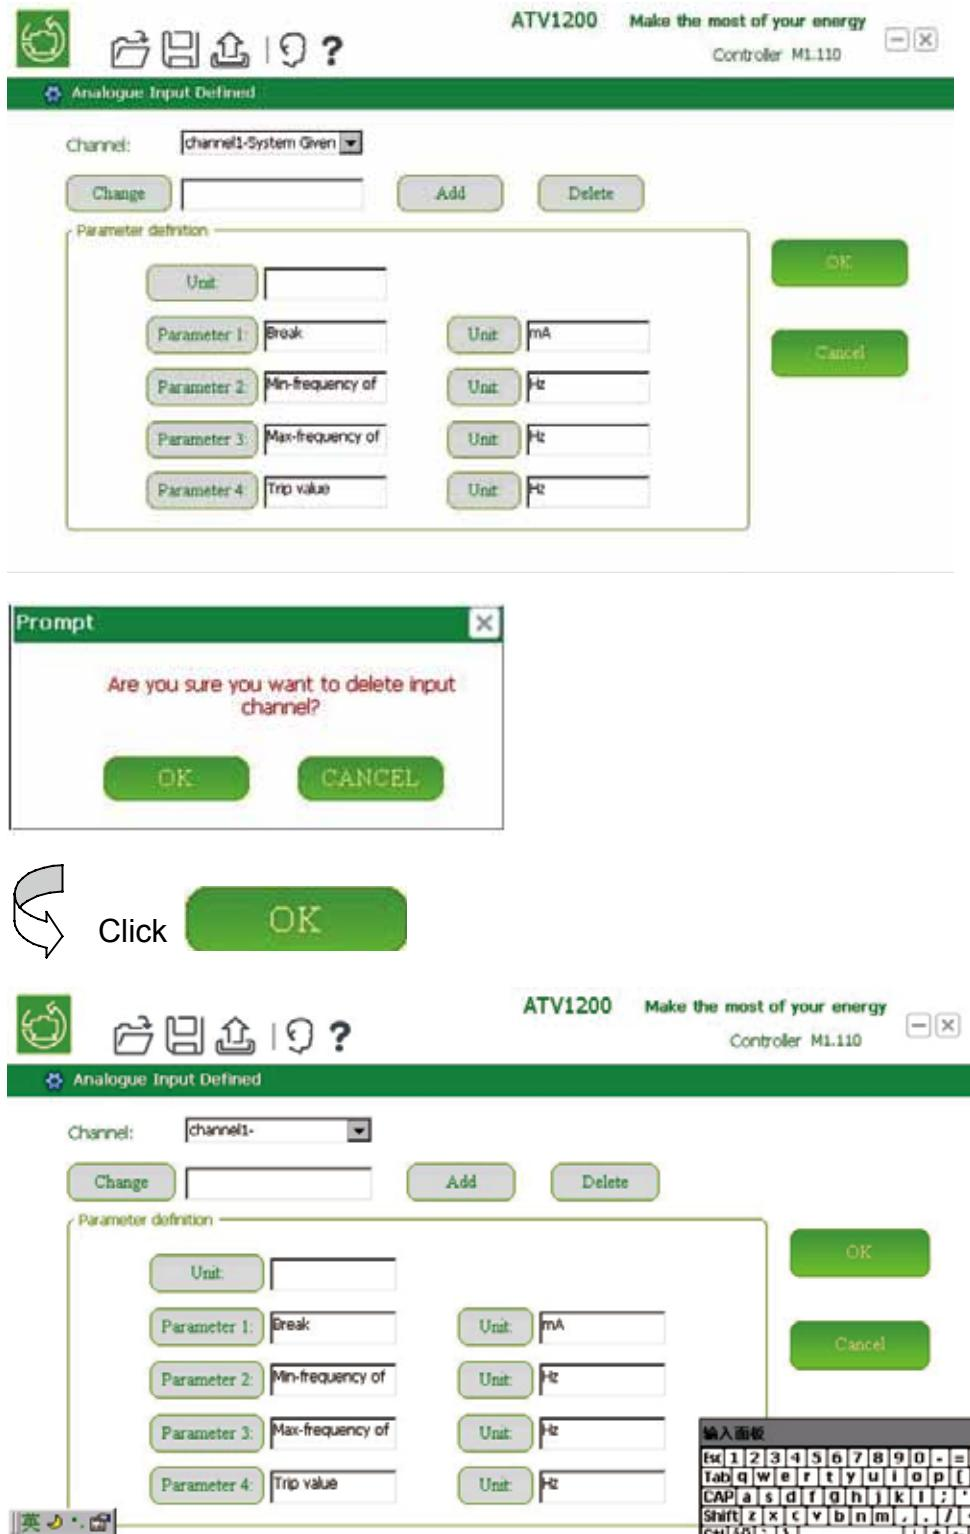

Figure 2-41 Method for deleting a channel name
2. To delete the name of the analog input channel that has already been defined, Firstly, select the channel to be modified, click the **Delete** button, then the confirmation dialog box appears. Click OK and the channel name will be deleted, as shown in Fig. 2-41.
3. Fig 2-41 method for deleting, the text beneath describes creating a new name! To add the name of the analog input channel that has already been defined.